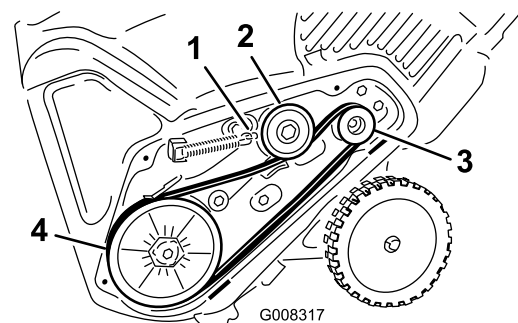

Figure 25
5. Install the new drive belt, routing it as shown in (Figure 25).
8. Install the brake spring onto the idler arm (Figure 25).